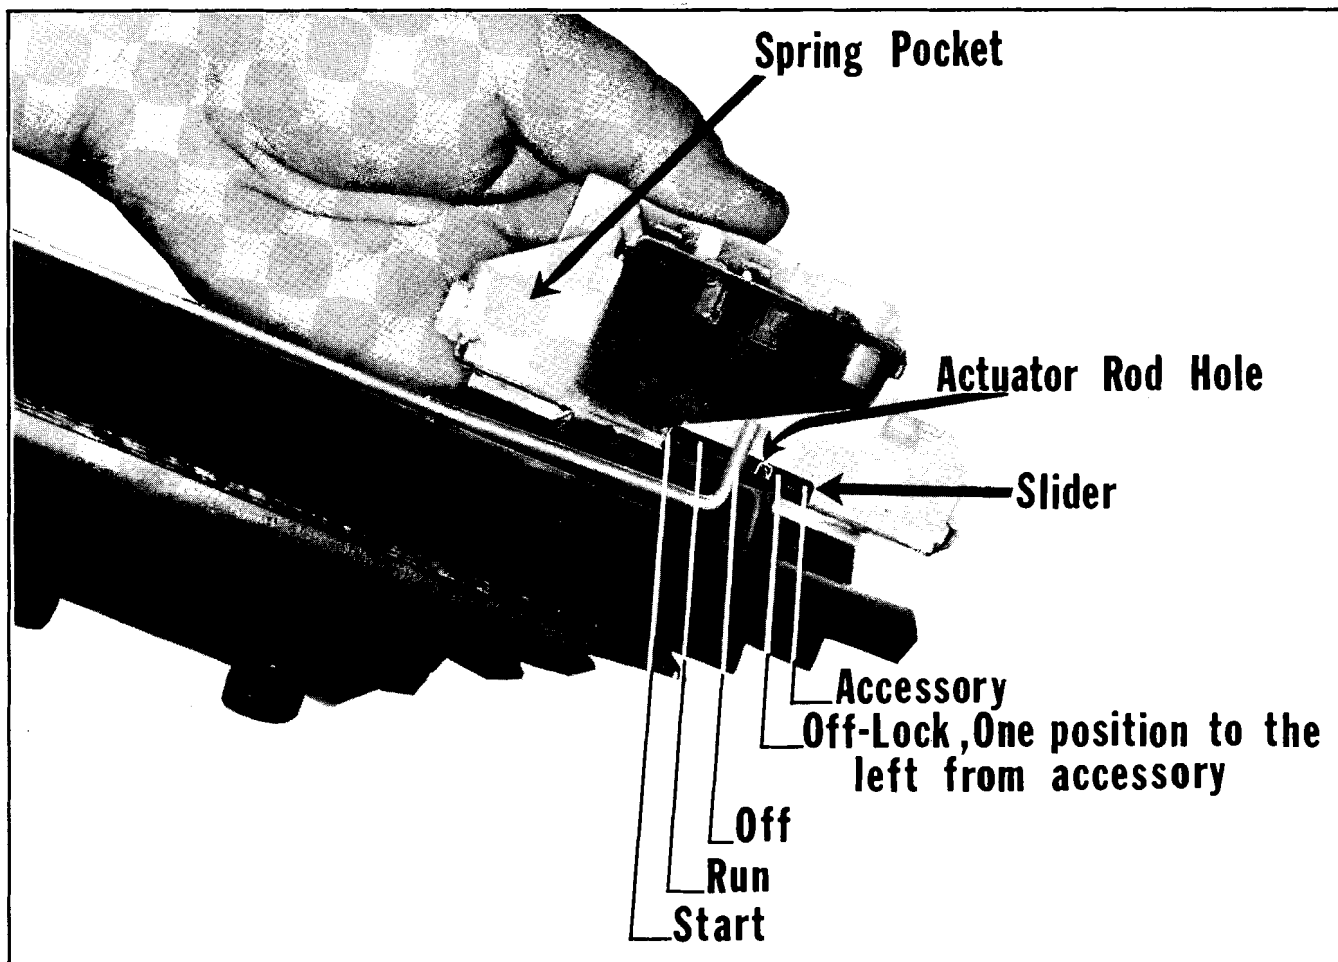

Fig. 12-102 Installing Ignition Switch (Tilt Column)
1. Turn ignition lock to "accessory" position (full counterclockwise position), leave key in lock (Fig. 12-102).